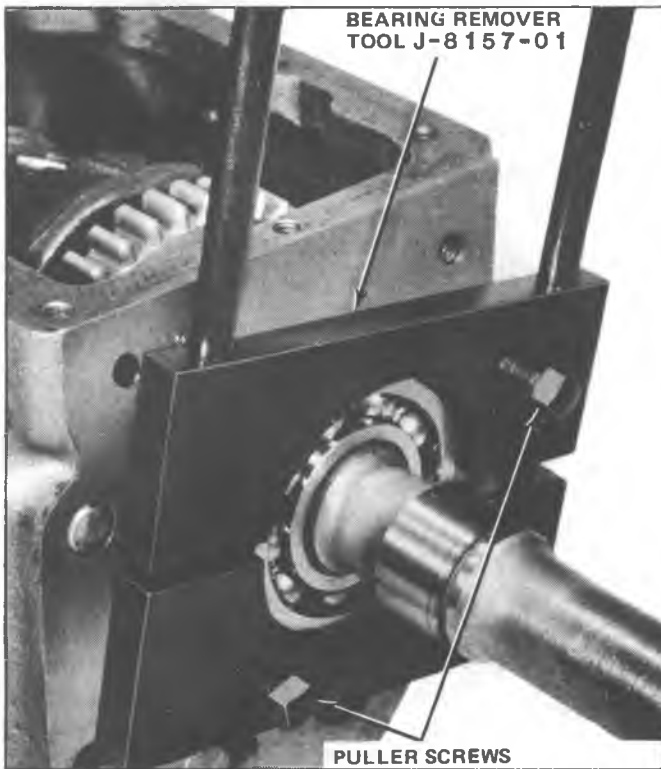

Fig. 8R--Removing Rear Bearing
12. Remove rear bearing from output shaft using tool J-8157-01 (fig. 8R).